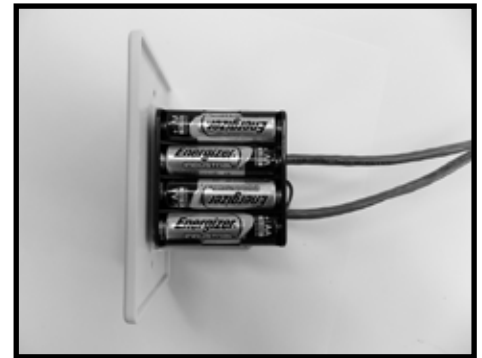

Figure 27: Wall switch - battery side.
- Insert the 4 supplied "AA" batteries into the battery pack of the wall switch (Figure 27).